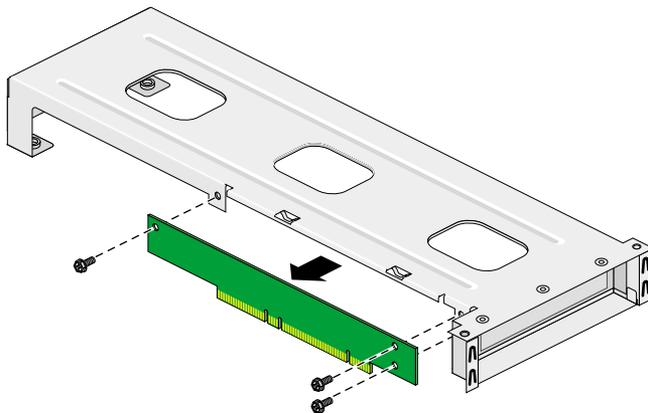

Figure 2-6 Detaching the Riser Card from the Link Bar
2. Remove three screws as shown in Figure 2-6.